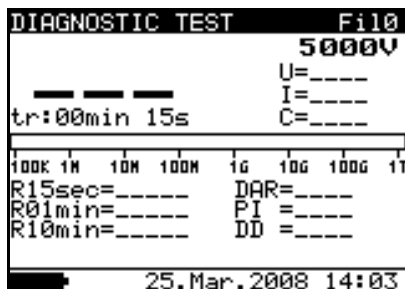
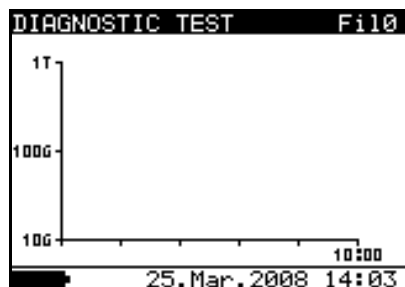

Fig. 29: Initial numerical screen
Fig. 31: Initial graphical screen
2. Select with arrow keys  $\blacktriangledown$  or  $\blacktriangle$  the item "DIAGNOSTIC TEST" on main menu and confirm with **SELECT** key. The screen of Fig. 29 is shown by the meter. In case of activation of Graphic R(t) option press arrow keys  $\blacktriangledown$  or  $\blacktriangle$  to select the graphical screen of Fig. 31